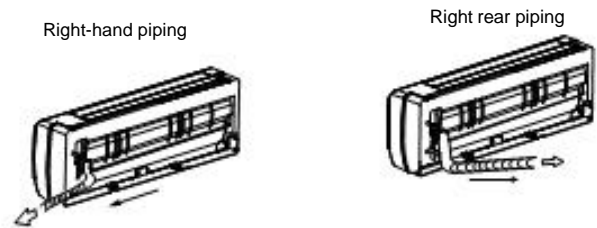

Fig.8
The unit can only use right-hand piping or right rear piping as shown in Fig.8.
2. For the right rear piping, install the piping as shown in fig. 8